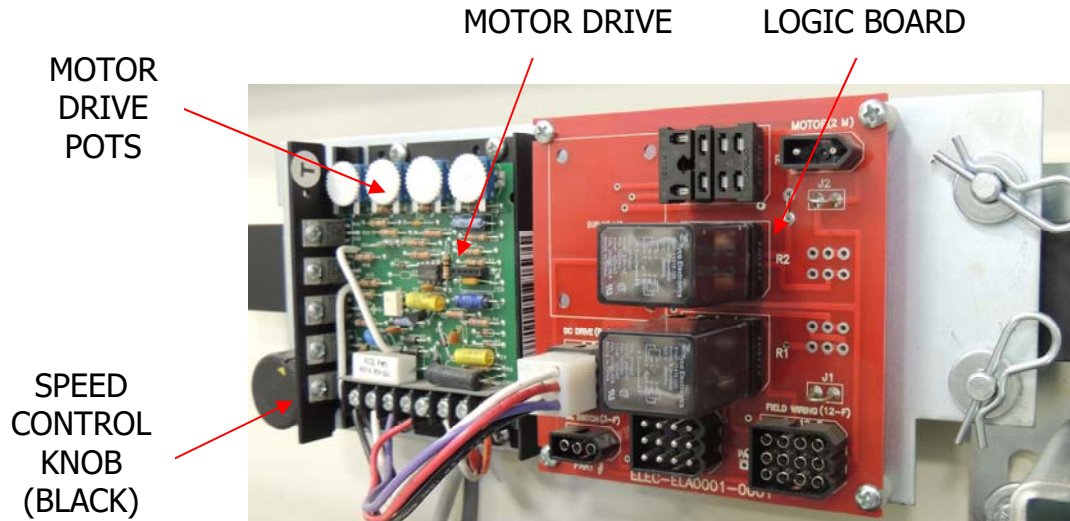

FIGURE 1
3. There is one **Speed Control Knob** (Black Knob) located to the far left on the logic board plate. To begin adjustment, turn the speed control knob fully counterclockwise to turn off (FIGURE 1).
4. There are **(4) Control Pots** on the Motor Drive. The pot adjustment varies depending on the motor voltage. See manual for adjustment position for each control pot (Figure 1).